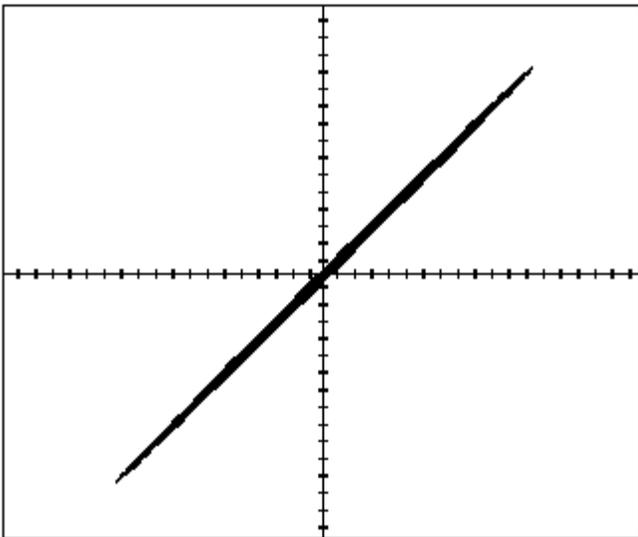

Figure 7. Pink noise in X/Y mode on the oscilloscope.
9. Adjust sound head optical lens azimuth for narrowest diagonal trace (see figure 7).